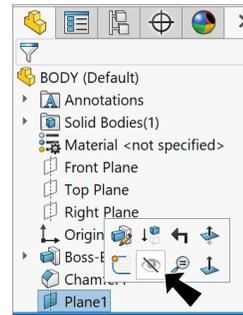

Fig. 17
Step 1. **Hide Plane1** . To hide, click **Plane1**  in the Feature Manager and **Hide**  on the context toolbar, **Fig. 17**.